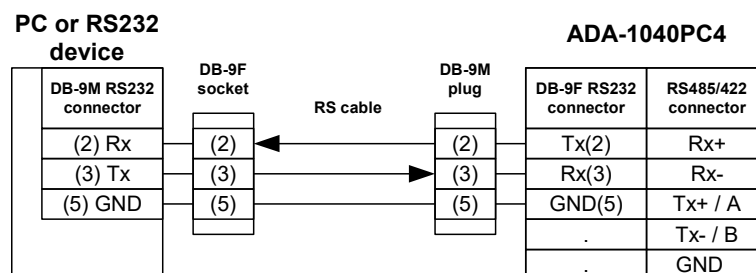

Fig. 4. ADA-1040PC4 connection to PC or RS232 device by the use of the cable.
- RS232 computer port, should be made a cable according to diagram on Fig.4,